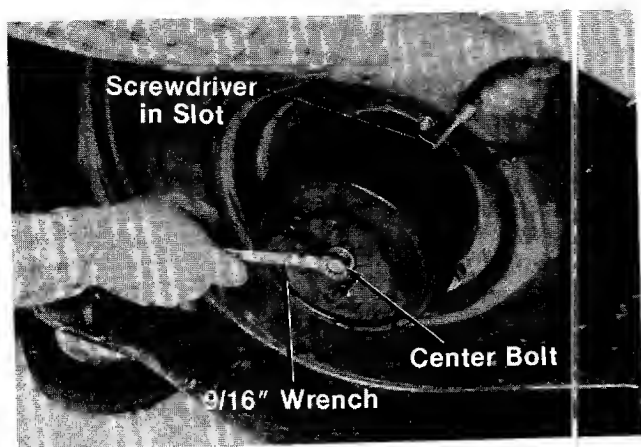

FIGURE 22.
- a. Insert a screwdriver into the slot provided in the blade brake/clutch housing where the control cable enters housing. See figure 22.